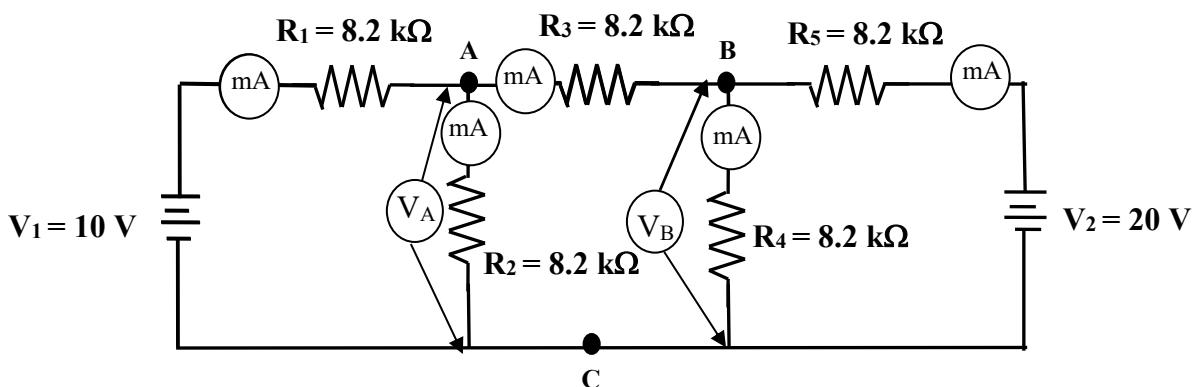

Figure 2: Redrawn circuit diagram of Figure 1 showing all meter connections
2. Connect the circuit drawn (Figure 2) in step 1. Adjust the power supplies so that $V_1 = 10 \text{ V}$ and $V_2 = 20 \text{ V}$. Use the multimeter to check these values.
3. Use the multimeter as an ammeter to measure the current through each resistor one at a time. Indicate their polarities (direction of current flow) in Figure 2 and tabulate the results in Table 1.
4. Use the multimeter as a voltmeter to measure the voltages at nodes A and B with respect to reference node C. Note their polarities in Figure 2 and record the results in Table 2.